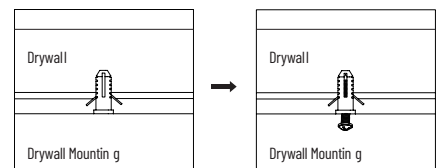

Figure 3
If the mounting holes go through drywall without a stud, drill four small pilot holes by a 1/8" drill bit (not included) and install wall anchors (CC) into the holes with a hammer (not included). Install the four wood screws (BB) into the mounting surface but leave about a 3/8" gap between the screw head and mounting surface. (Figure 3)